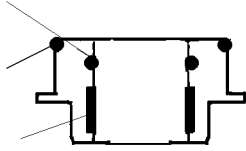

Figure 19 - Lower Bearing Carrier
1. Remove and replace the o-ring (Figure 19, item A) located inside the lower bearing carrier.
2. Check the split bearing (Figure 19, item B) inside the lower bearing carrier by feeling the amount protruding from the lower bearing carrier wall. If the bearing is flush with the wall, replace the bearing.
7. To remove the outer o-ring (Figure 19, item C), slide or cut the o-ring off the lower bearing carrier. Do not nick or scratch the o-ring groove.